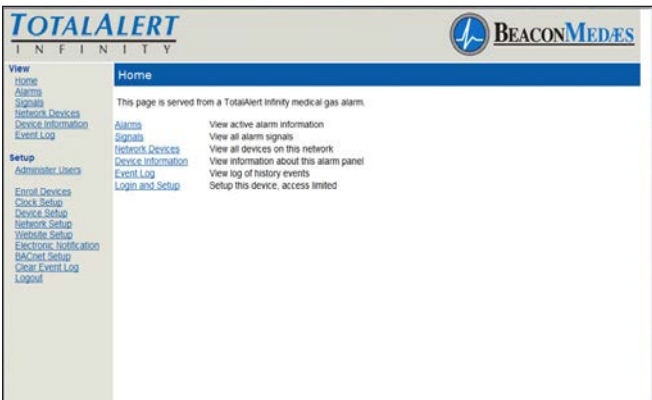

Figure 192: Logged In
3. The left sidebar will now contain the setup links (Figure 192).